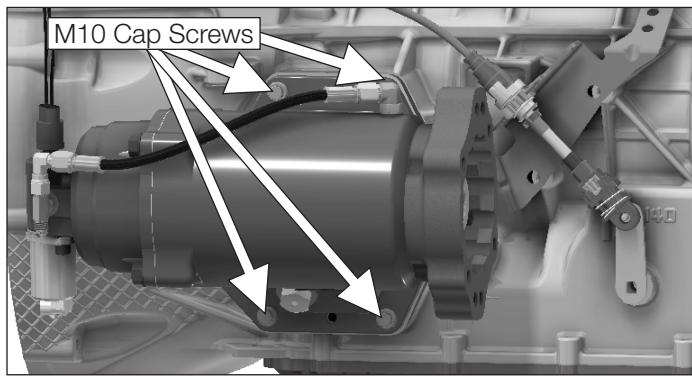

Figure 38
- (2) 3/8" flange nuts, torque to 35-40 lb-ft [47-54 N-m] (**Fig. 38**).